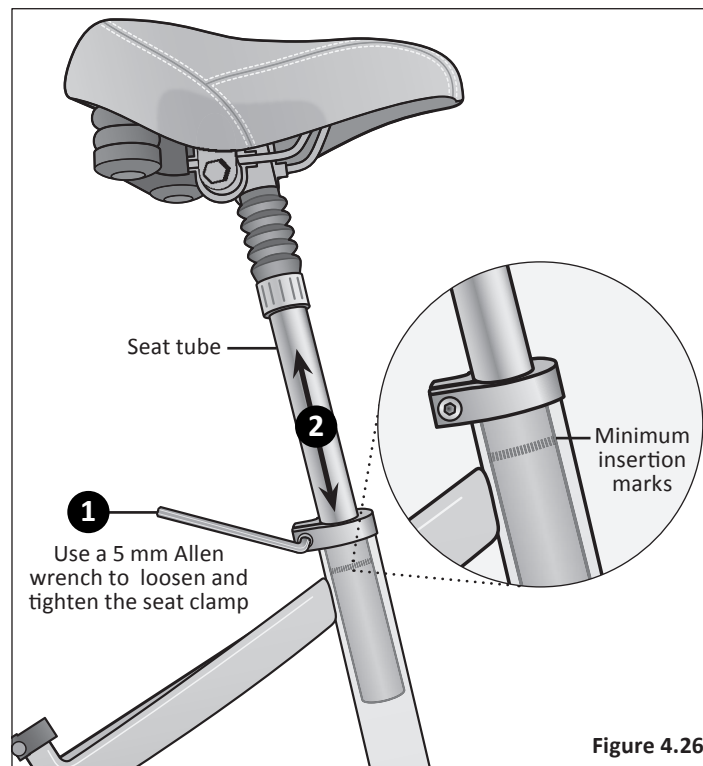

Figure 4.26
- ❶ Using a 5 mm Allen wrench, loosen the seat clamp bolt. **Figure 4.26**
- ❷ Adjust the seat height up or down until the rider feels they have control of the bicycle and are comfortable.